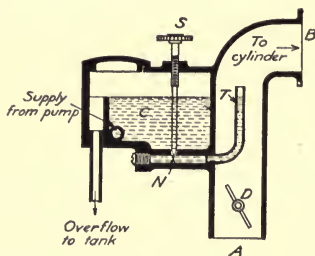

FIG. 96.
55. Principles of Carburetor Construction.—Most of the modern types of carburetors are of the spray or nozzle type, in which a jet of gasoline is sprayed into a current of air to form an explosive mixture. Figure 96 illustrates an elementary spray carburetor. The gasoline supply tank is placed below the carburetor and the gasoline is pumped up through the supply pipe. The overflow pipe maintains the level of the liquid at a constant height. The standpipe *T* is connected with the supply chamber *C* by means of the connection *N* and the flow is regulated by the needle valve *S*. The gasoline level in the standpipe *T* is always the same. The flange *B* is fastened onto the intake passage of the engine. The suc-
This type of carburetor could be used on constant speed engines only. If a carburetor such as shown in Figs. 96 or 97 was put on a variable speed engine and the proper adjustment made by means of the needle valve so that the mixture proportions were correct at low speed, and the engine should then be speeded up, we would discover black smoke coming from the exhaust, indicating an excess of gasoline over the air supplied. This is due to the fact that under the increased suction due to the higher speeds of the piston, the air drawn in past the standpipe expands and increases in volume and velocity faster than it increases in weight; while the gasoline drawn from the nozzle, being a liquid, increases in weight just as its velocity and volume are increased. This means that under an increased suction too much gasoline is supplied for the amount of air drawn in.